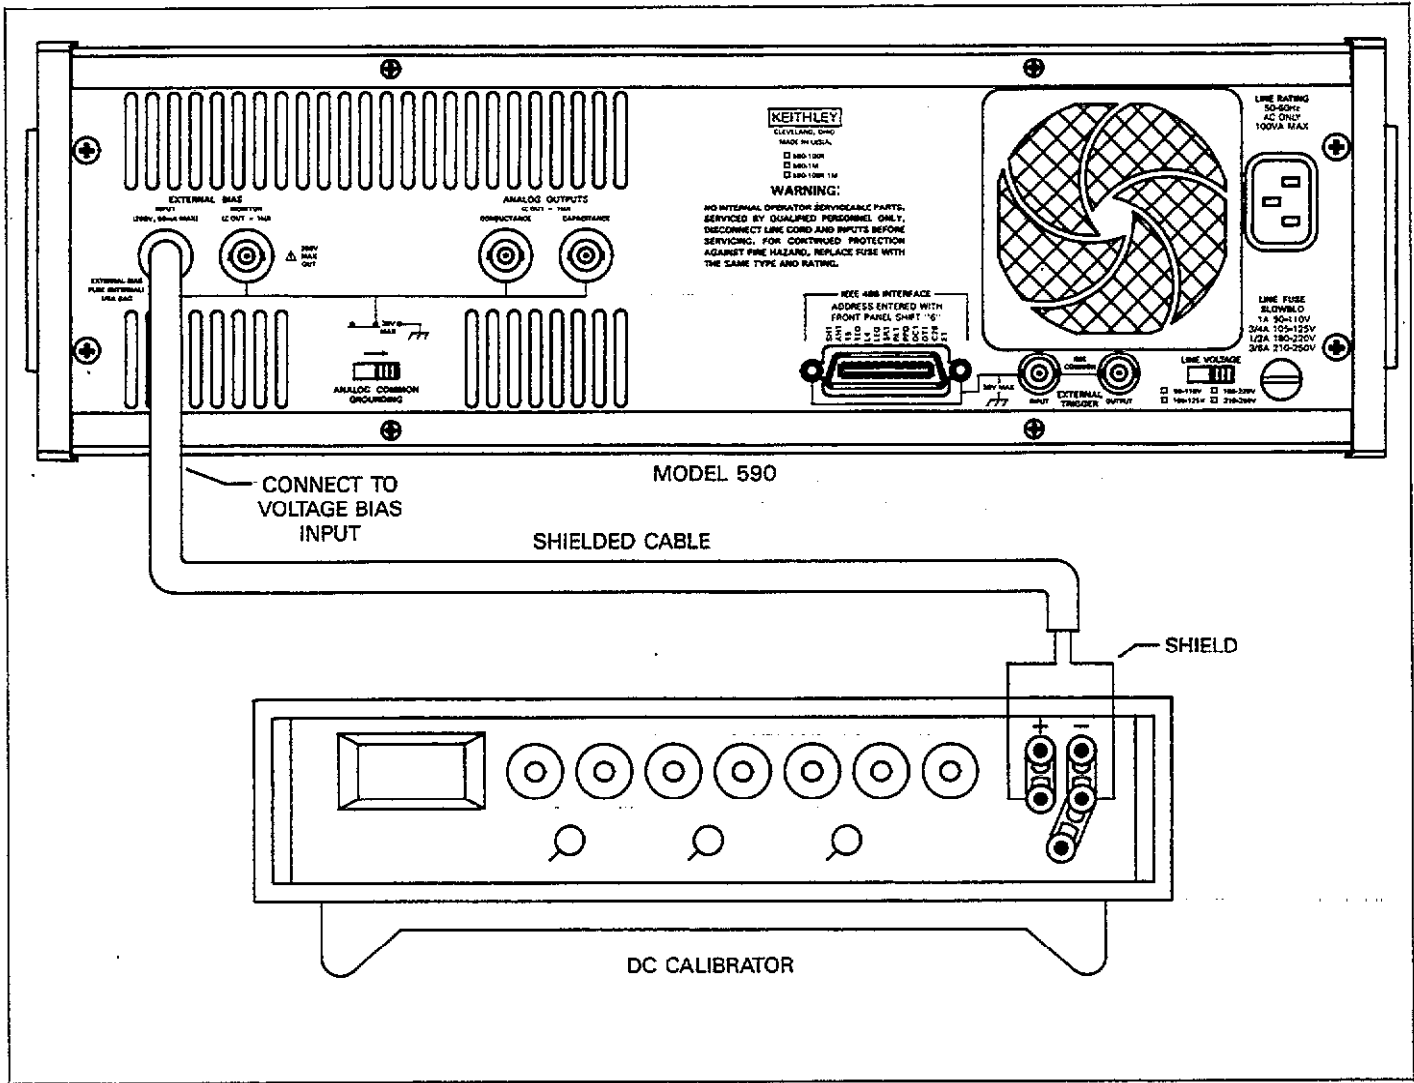

Figure 5-8. Connections for 200V Read-Back Verification
1. Connect the external DC calibrator to the VOLTAGE BIAS INPUT jack, as shown in Figure 5-8. Initially set the calibrator to 0.0000V and place the unit in operate.